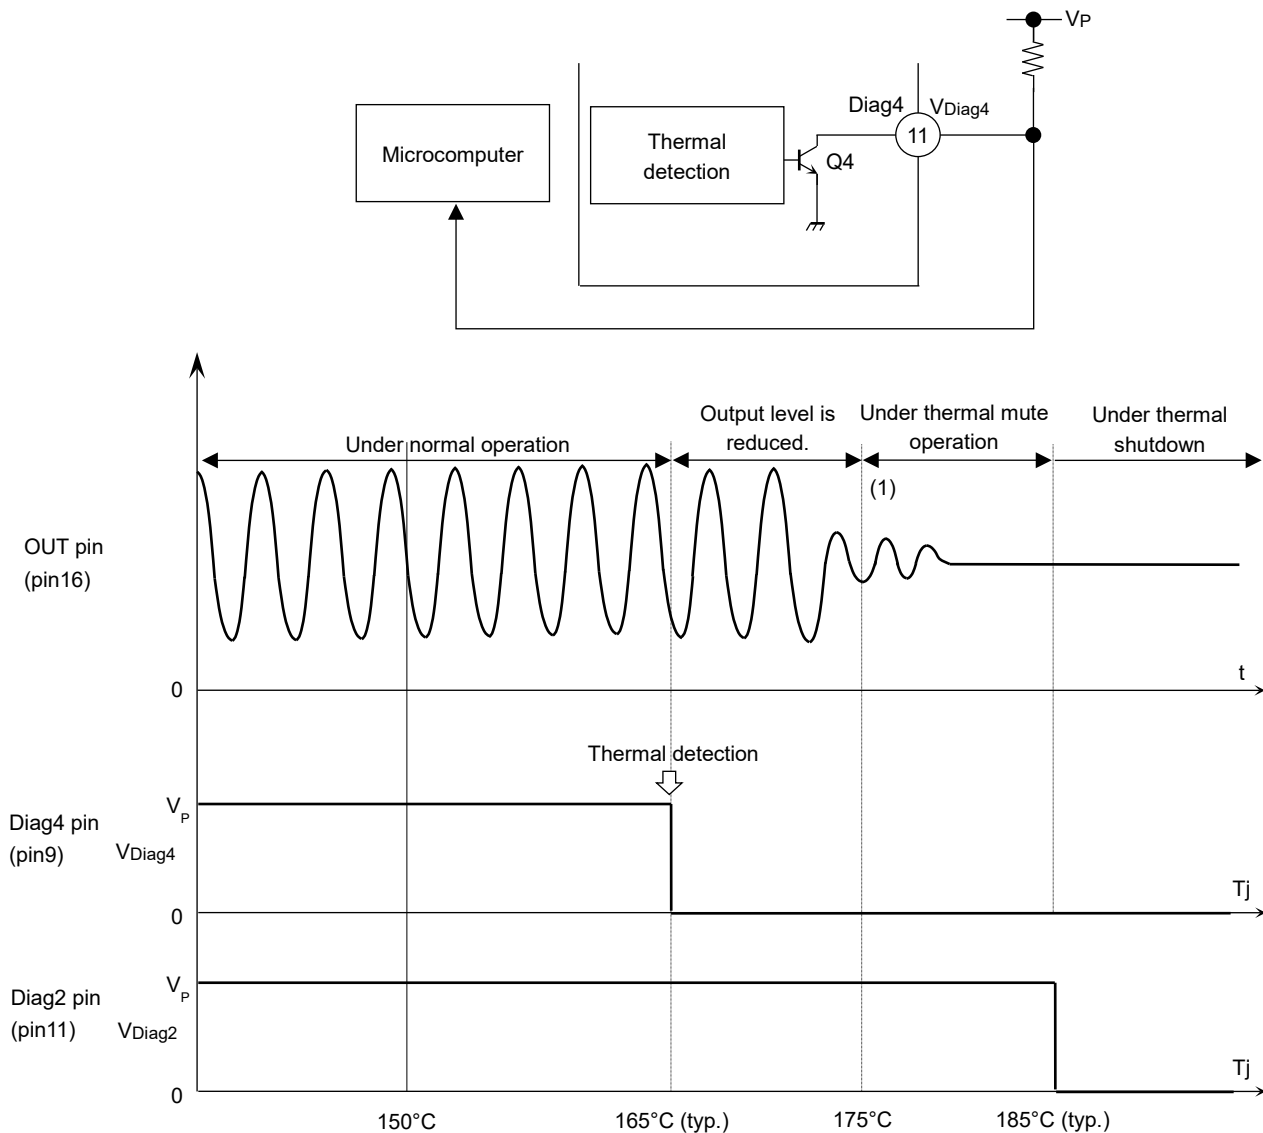

Figure 10 Thermal detection
When the thermal detection is detected, the output level is reduced. If the junction temperature increased, the output level is more reduced ((1) in Figure 10). Even if the output level is reduced, the junction temperature increased, mute function is enabled (thermal mute). Even if mute function is enabled, the junction temperature increased continuously, the output transistors are OFF (thermal shutdown).
When the junction temperature increases, NPN transistor (Q4) is turned on and the Diag4 pin outputs to low. (Refer to figure 10)